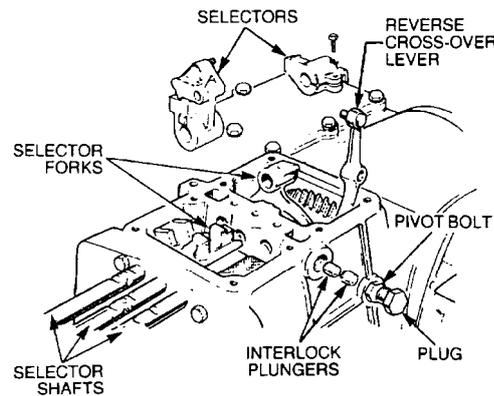

Figure 177 Installing the Selectors
- eee.** Position the reverse crossover lever in the transmission case and locate the selector pad in the reverse idler groove. Ensure the crossover pad is correctly engaged in the reverse idler groove prior to tightening the pivot bolt. Apply Loctite 241 to the pivot bolt threads only and install the bolt and engage the crossover lever pivot hole. Tighten the pivot bolt securely (Figure 177).